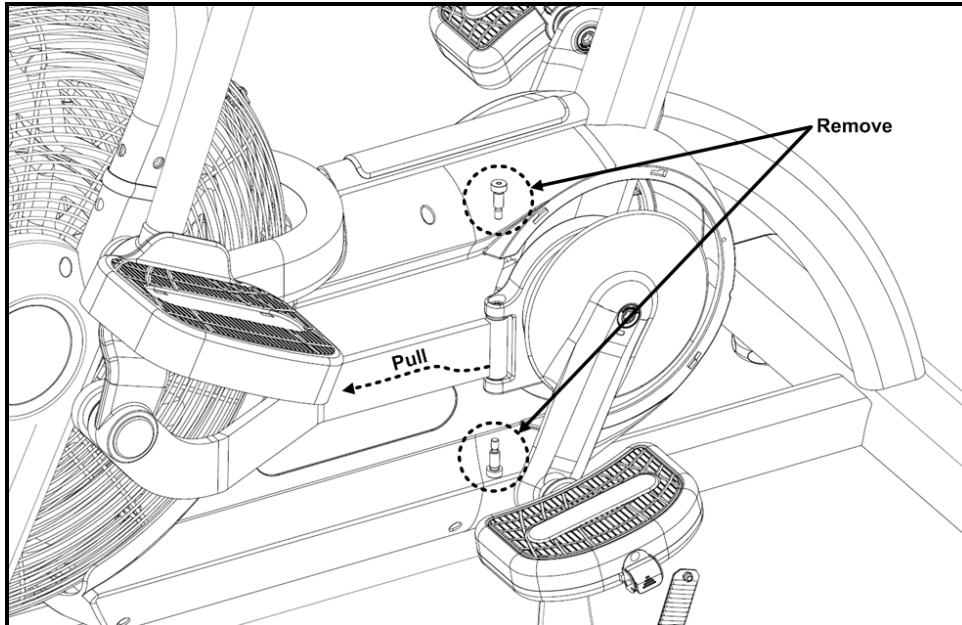

Fig. 2
2. Detach the left & right crank linkage arms from the crank cams by removing the two securing shoulder bolts (Fig. 2) from each of the crank cams using a 4mm hex key and pull the linkage arm away from the crank cam bracket.